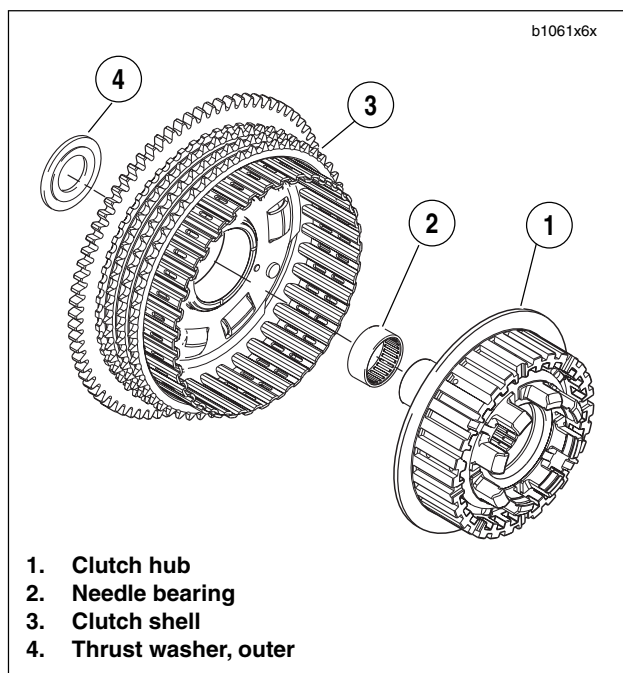
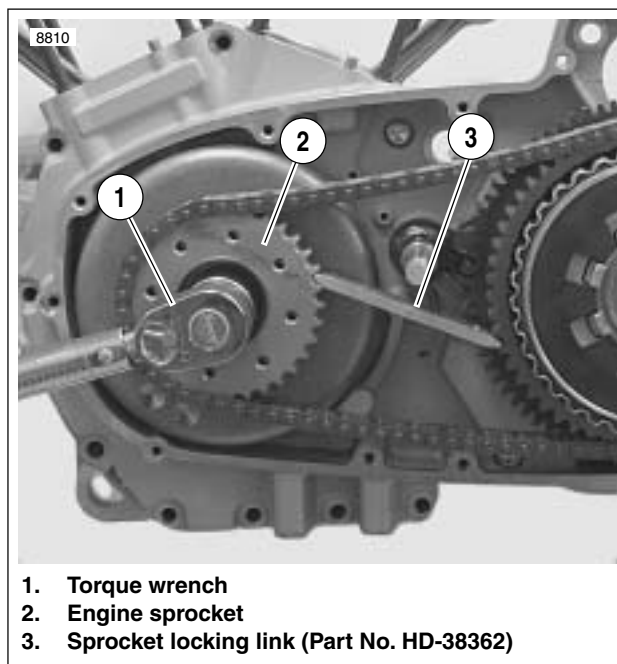

Figure 6-33. Clutch Hub and Shell Assembly
Figure 6-34. Sprocket Locking Link Tool (Part No. HD-38362) for XB9R models and (Part No. HD-46283) for XB12R models.
1. See Figure 6-33. Assemble clutch hub (1) and shell (3) by sliding inboard end of clutch hub into shell bearing (2) by hand. No tools are required.
3. Verify that outer thrust washer (4) is installed on transmission shaft.
5. See Figure 6-34. Install the engine sprocket nut.